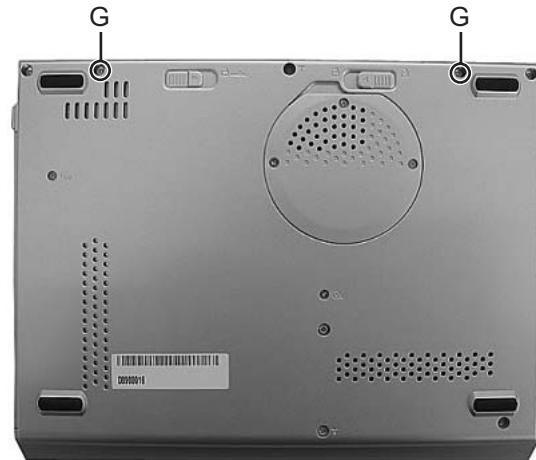

Fig.11
3.1.6 Removing LCD panel assembly(See Figure 10 and Figure 11)